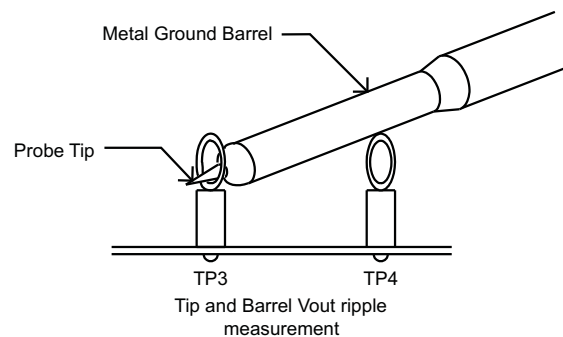

Figure 3. Output Ripple Measurement – Tip and Barrel using TP3 and TP4
2. Connect oscilloscope probe with exposed metal barrel to TP3 and TP4 per Figure 3.